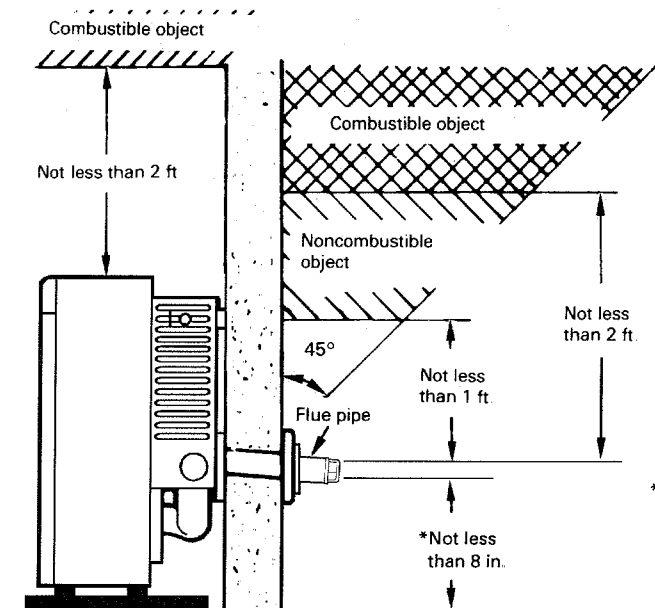

Fig. 2
2. Make sure that the outside area to where the standard flue pipe will reach is clear of any objects. (See Fig. 2 & 3)